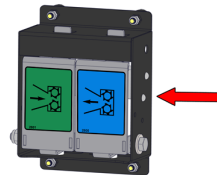

Figure 16 - Reverse Feed Control
6. Press the **BLUE** Reverse Feed Control (Figure 16).